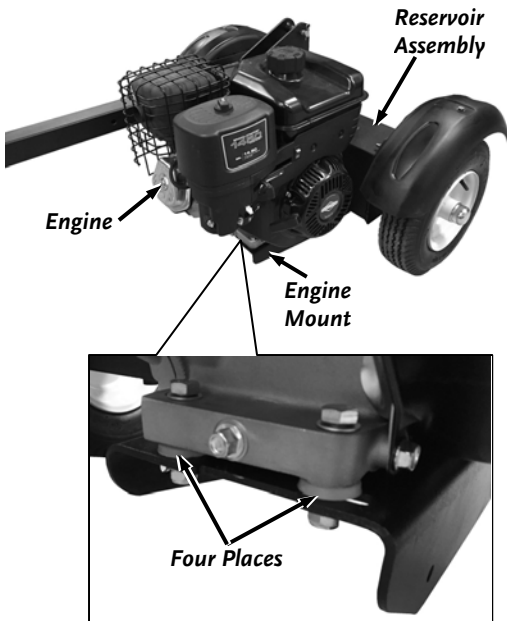

Figure 16
1. Position the Engine with Pump Assembly onto the Engine Mount as Shown (Figure 16). Insert a Vibration Isolator between the Engine and Mount at the four mounting hole locations.